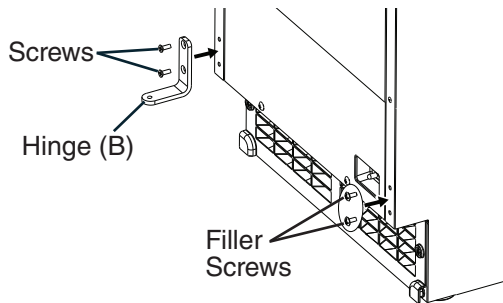

**Fig. 11**
- a) Contact your local distributor to purchase Hoshizaki Kit HS-0229. The kit contains "hinge (A)-left."
- b) Remove the 2 screws securing the top panel, then lift it off. See Fig. 11.